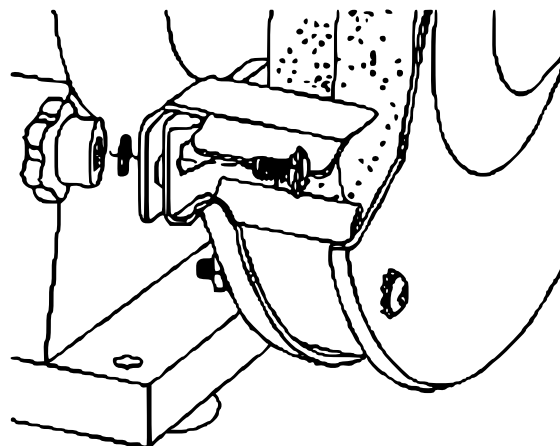

Figure 2
1. Hold the workpiece holder **(2)** against the wheel protection rail. Make sure that the workpiece holder is pointing in the right direction. The angled corner must point away from the bench grinder (see Fig. 2).